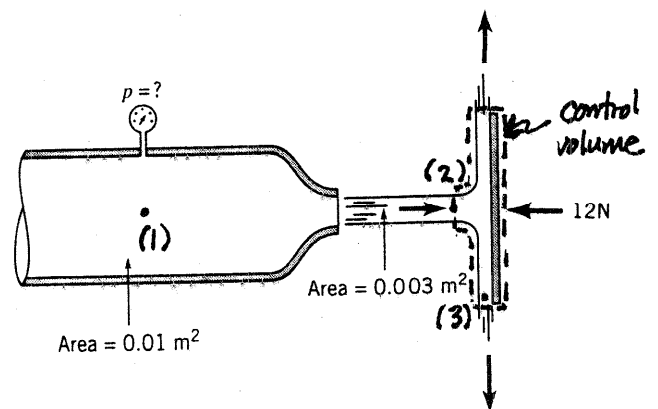

FIGURE P5.52
5.52 Air flows into the atmosphere from a nozzle and strikes a vertical plate as shown in Fig. P5.52. A horizontal force of 12 N is required to hold the plate in place. Determine the reading on the pressure gage. Assume the flow to be incompressible and frictionless.